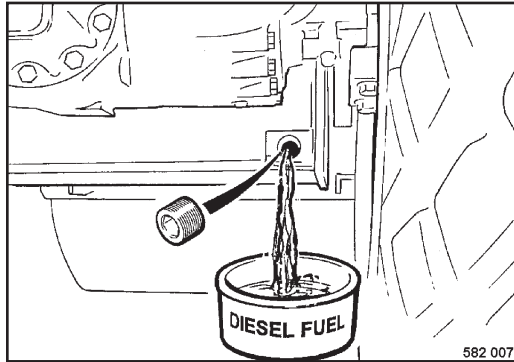

Fig. 117
- Unscrew the drain plug (Fig. 117) from the bottom of the fuel tank and drain off approx. 5 litres of fuel.